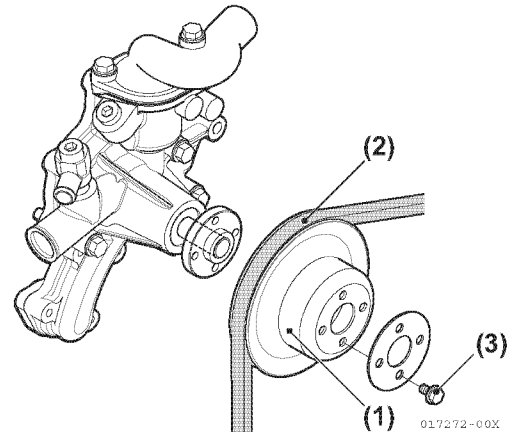

Figure 7-38
5. Check grooves of pulleys and tightening bolts. Replace pulley or bolts as necessary (**Figure 7-38**).